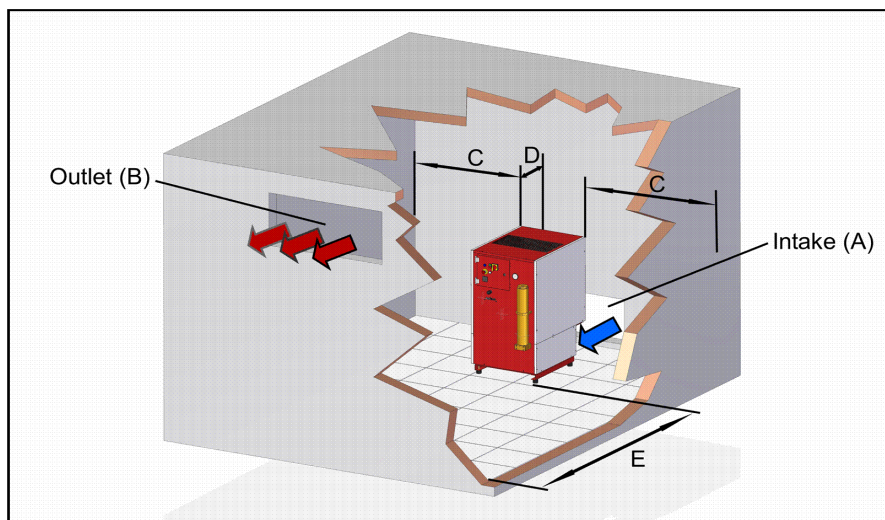

Fig. 2
- Position the compressor preferably in the coolest area of the room. In the case of natural ventilation sure that the compressor is as close as possible to the fresh air intake and it has the appropriate size. Besides this there must be a 'opening in the upper part of the room that gives the possibility to dispose of the hot air, and also has the appropriate size (see tab. A and Fig. 2). The two openings must not be on the same wall, otherwise you must make sure to direct hot air upward.